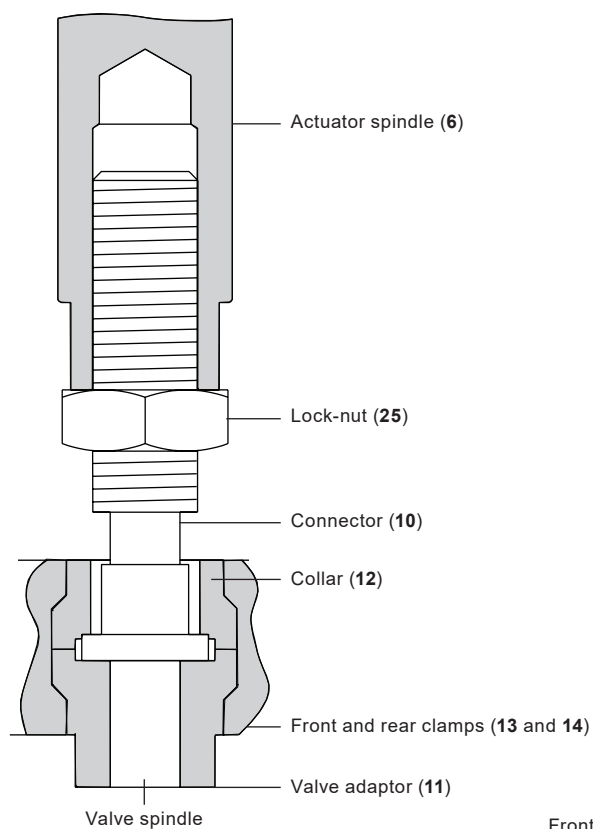

Fig. 7
- Loosen and remove the clamp nuts and screws (26 and 27, see Figure 7) and remove the valve adaptor (11).
- Using two spanners whilst holding the actuator spindle (6) loosen the adaptor lock-nut (25).
To adjust the set point refer to Figure 7 and proceed as follows:
- With the valve plug remaining on its seat adjust the valve adaptor (**11**) until it presses tightly against the connector (**10**). See Figure 7 for correct installation.